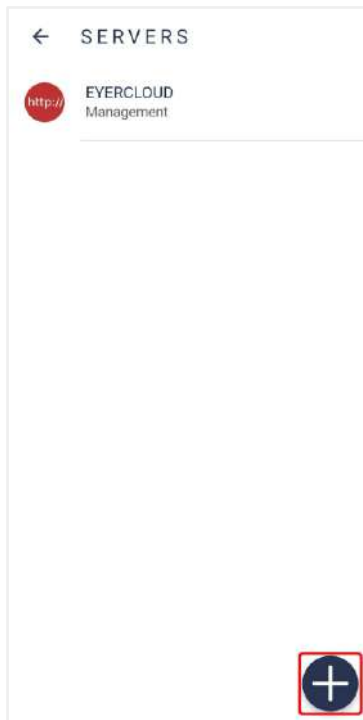
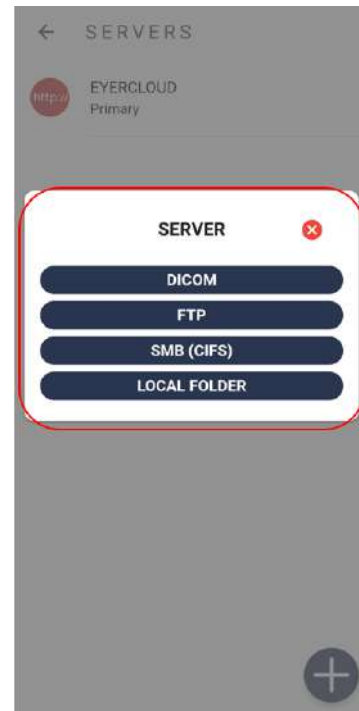

Figure 90: Servers list
Figure 91: Option to create servers
Option 4. "Servers", enables accessing available servers, figure 90.
Select button , figure 90, to add a new server. Select the server type to synchronize, figure 91, and fulfill information as described in item 3.2.1.3.4.1 Common server setup.